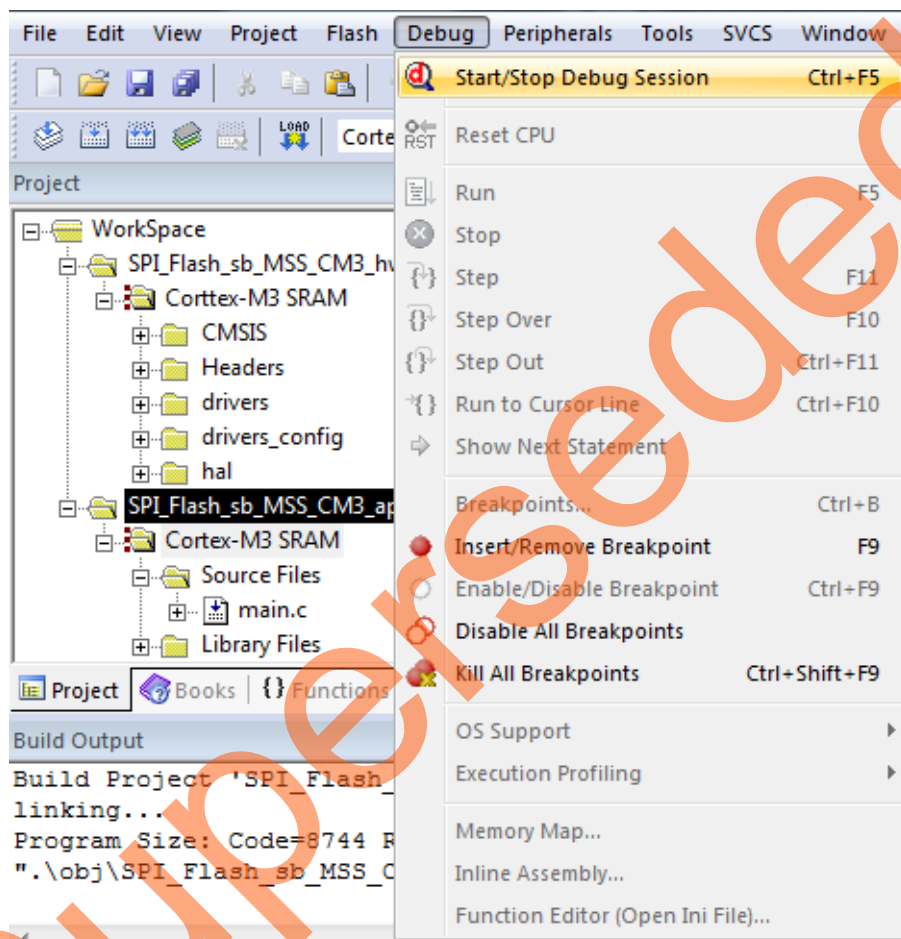

Figure 37 • Selecting Start/Stop Debug Session
1. Select **Start/Stop Debug Session** from the **Debug** menu in the uVision window to run it through the debug hardware, as shown in Figure 37. The processor code is downloaded to the SmartFusion2 eSRAM.